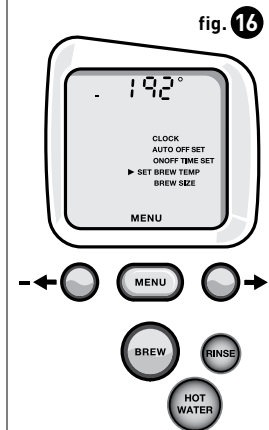

fig. 16
2. The LCD Control Center will now display the programming options with a small arrow next to "SET BREW TEMP" (fig. 16). Also, the temperature 192° (initial setting) will be displayed at the top of the LCD Control Center to indicate the current temperature setting.